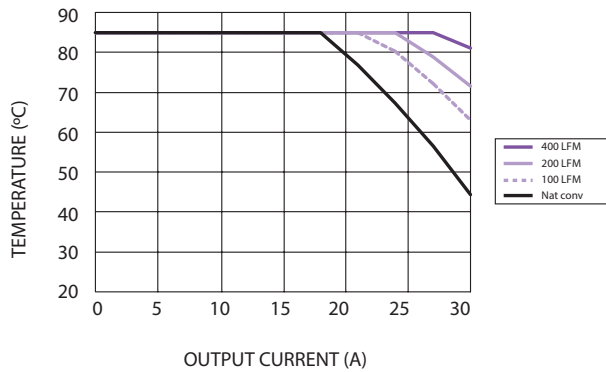

Figure 1 - Safe Operating Area
- See Figures 1 for safe operating curves.